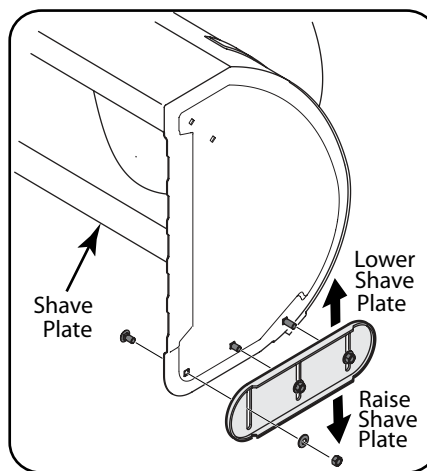

Figure 3-9
1. Adjust skid shoes by loosening the six (three on each side) hex nuts, washers, and carriage bolts securing the skid shoes to the auger housing. Refer to Figure 3-9.
2. While observing the distance between the shave plate and the ground, adjust the skids shoes up or down to achieve the desired shave plate height. See Figure 3-9.